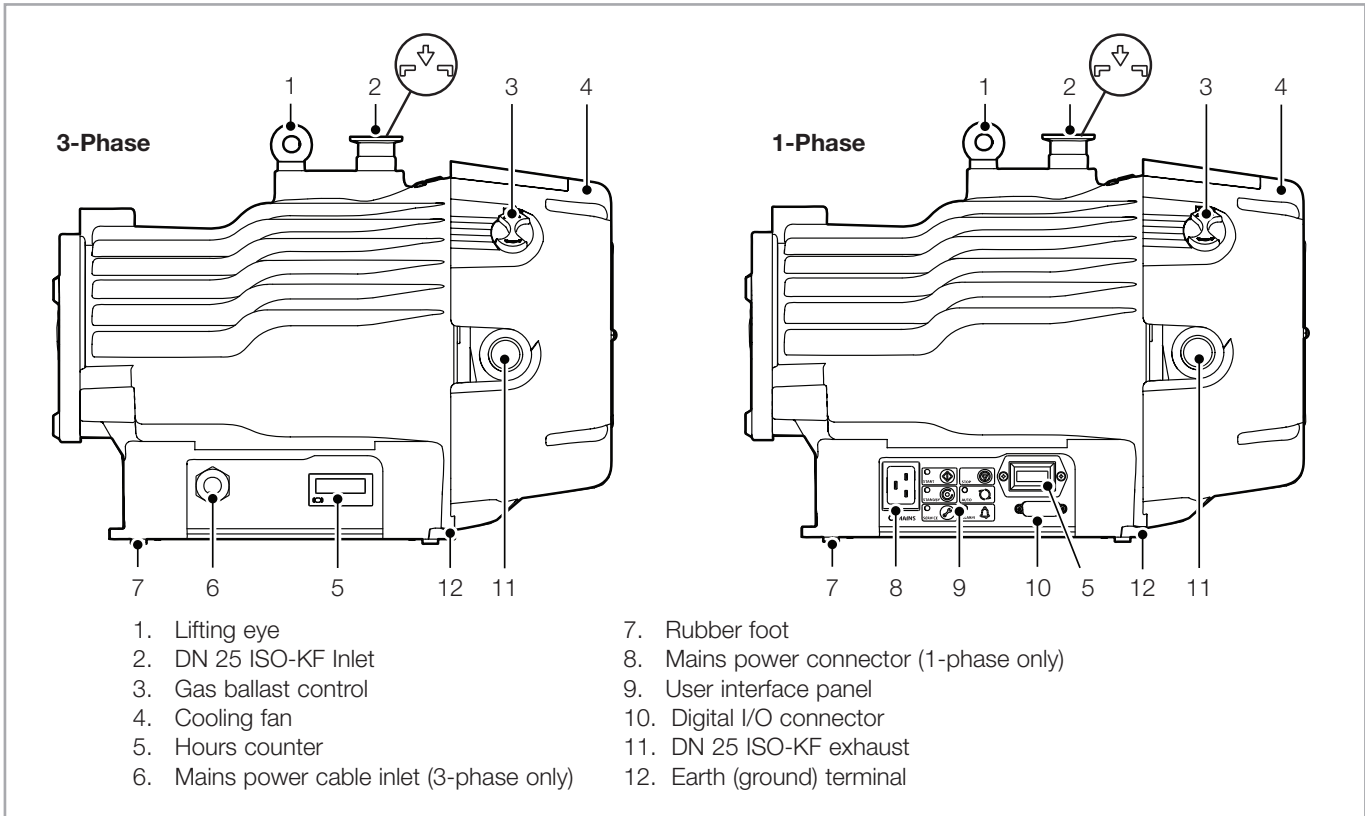

Figure 1 SCROLLVAC plus 1 and 3 phase
The SCROLLVAC plus 1-phase and 3-phase pumps are shown in Figure 1.
Air can be introduced to the low vacuum stages through the gas ballast control (Figure 1, item 3). Alternatively, an inert gas such as nitrogen can be supplied through a suitable external valve and by using the appropriate adaptor, available as an accessory.